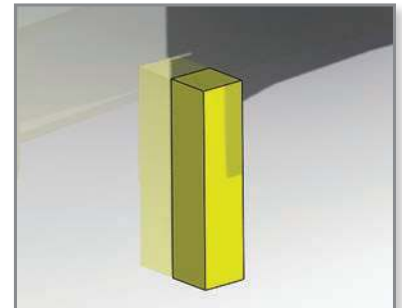

Figure 6: Reference feature (square extrusion) located at the origin.
STEP 2: Add a reference feature (square extrusion) at the origin making it slightly taller than the part. This will assist with alignment of the various regions within the Insight software (Figure 6).